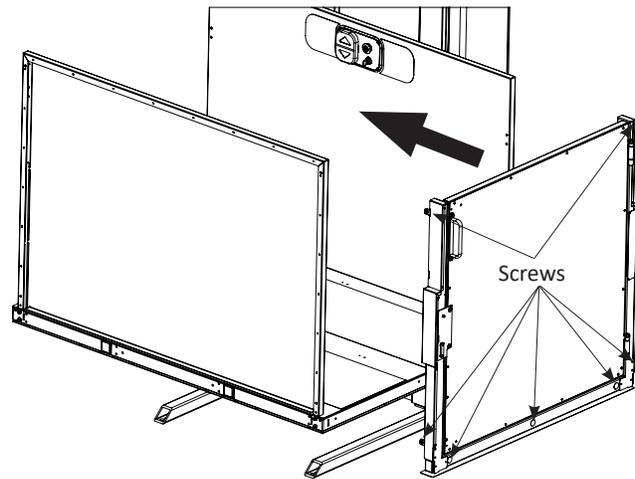

Figure 4-6
2. Install four (4) $\frac{1}{4}$ " - 20 x $\frac{5}{8}$ " screws through tabs in gate frame into threaded holes on platform panels. *See Figure 4-6.*